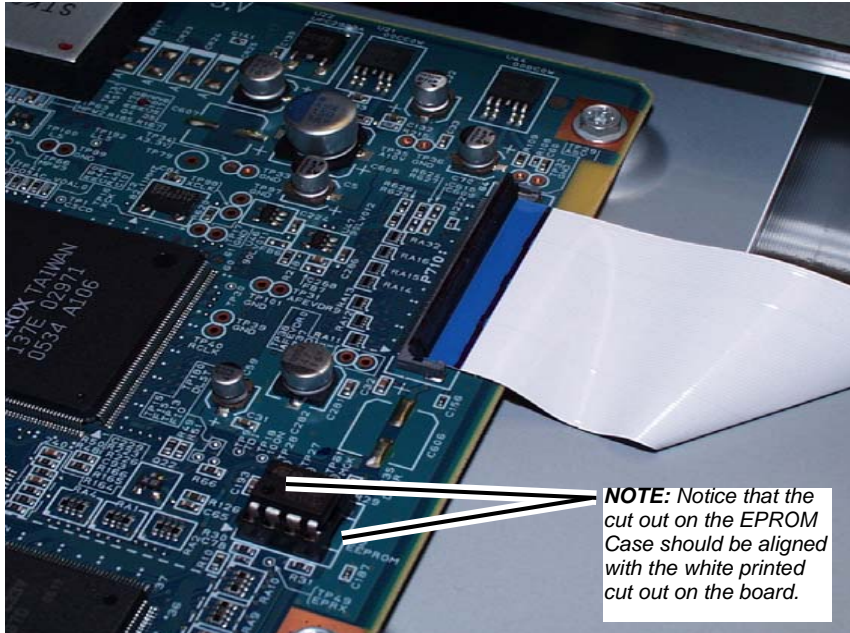

Figure 10 Removal and replacing the IIT EPROM
1. When replacing the IIT/IPS PWB, install the EPROM from the old IIT/IPS PWB onto the new IIT/IPS PWB. (Figure 10)